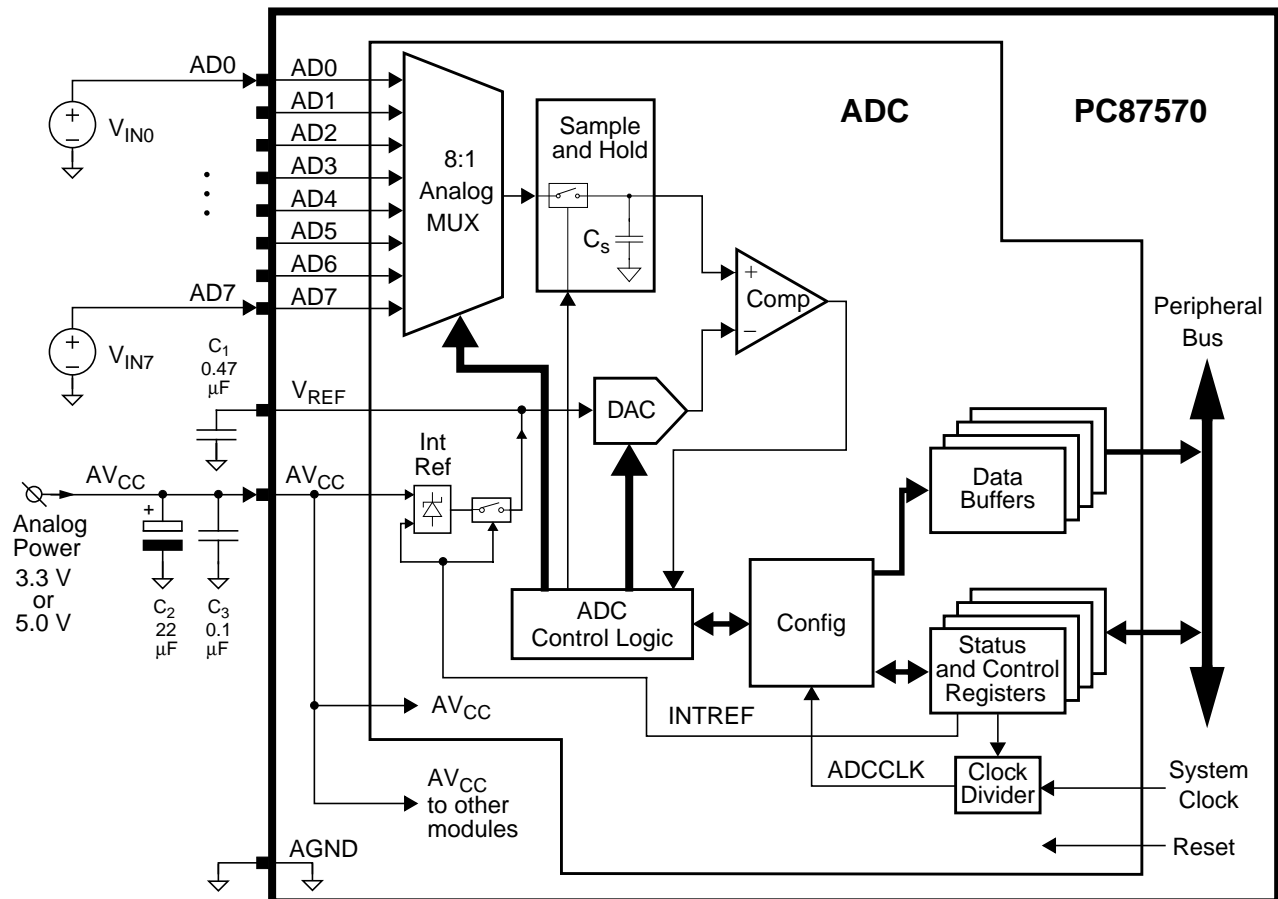

Figure 16-1. ADC Functional Diagram
The ADC has eight analog inputs, AD0-7, as shown in Figure 16-1. The analog multiplexer selects one of them and connects it to Sample and Hold. The input signal is sampled before the conversion begins.
The analog input voltages are converted relative to a reference voltage. See both Figure 16-1 and "Bit 1 - Internal VREF (INTREF)" on page 123 for details. For DC specifications, see Table 19-5 on page 134. The ADC can use either an internal or external reference voltage, as follows:
**Note 1:** The VREF pin filters the internal reference. In both internal and external configurations, a 0.47 μF filtering capacitor, C1, should be placed as close as possible to VREF, as shown in Figure 16-1.
The ADC clock is generated by the on-chip clock multiplier (see Chapter 7 on page 76). This clock can be divided by 1, 2, 4, 8, 16, 32 or 64, by programming the pre-scaler located at CDIV of the ADCCNT3 Register. The ADC clock must operate at a rate lower than 1 MHz. The Clock Divider (see Figure 16-1) allows ADC usage in systems with a higher clock rate. CDIV must be programmed prior to enabling the ADC (i.e., while ADCEN of the ADCCNT1 Register is 0).
After the ADC is enabled, its internal circuits need a maximum activation delay of 100 μs. The internal reference voltage needs a typical 50 μs delay to charge the external filtering capacitor of 0.47 μF, present on VREF, as shown in Figure 16-1.